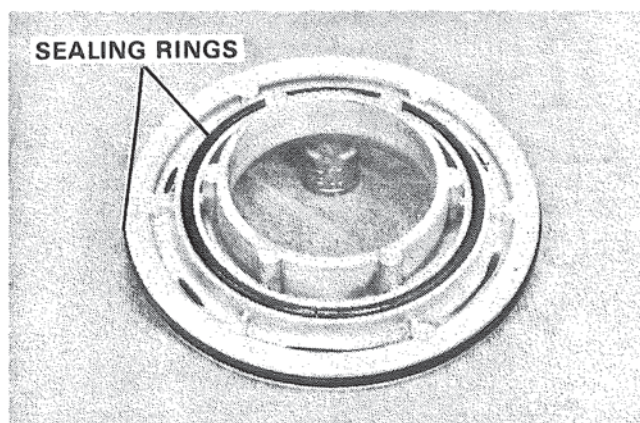

Figure 33. Removing Clutch Sealing Ring.
5. Remove forward clutch sealing rings. Figures 33 and 34.